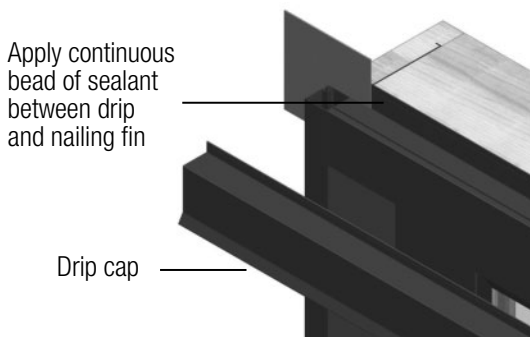

FIG. 16
- A) Apply a 1/4" continuous bead of 100% silicone sealant to the top of each joint where the jambs meet the head. (Fig. 16)